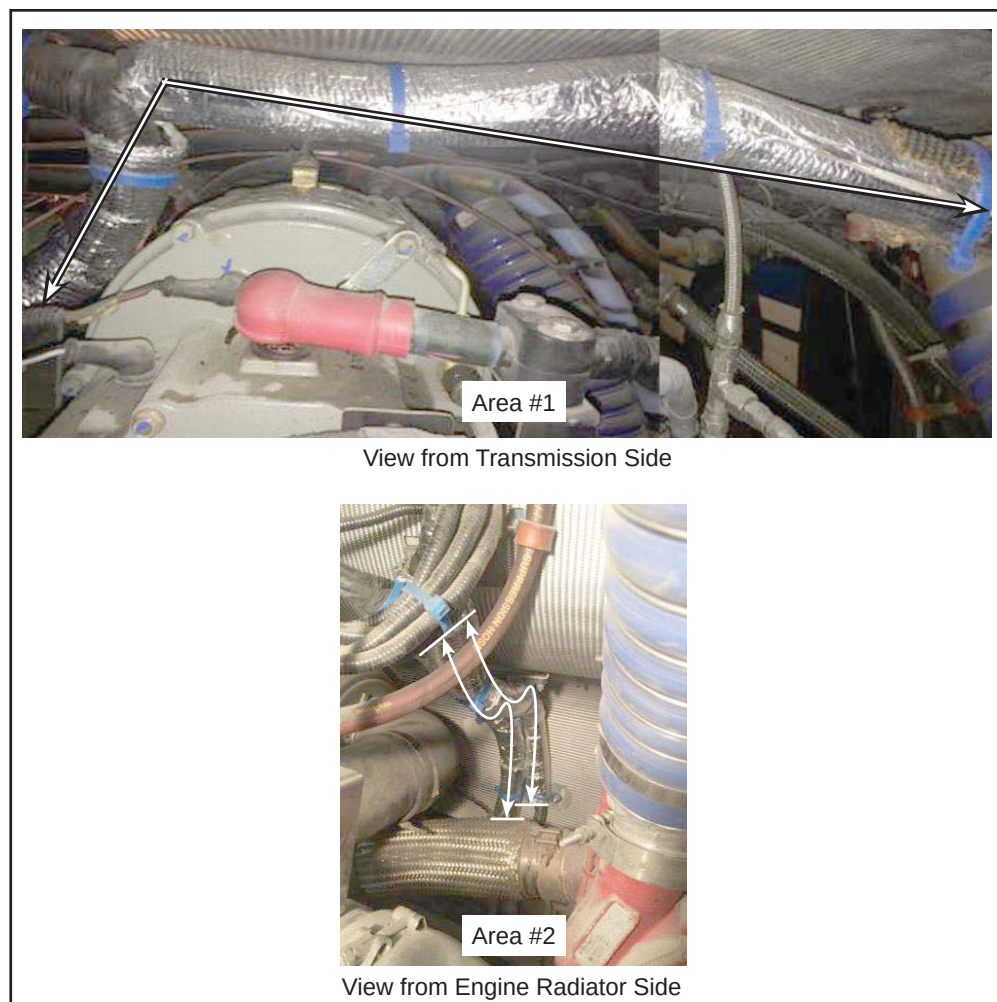

*Figure 2 - Areas Where to Install the Heat Sleeves*
- 1.10. Install an appropriate length of N74053-08 heat sleeve between the Tyton blocks. See Figure 2. Close the sleeves with the integrated self-adhesive.